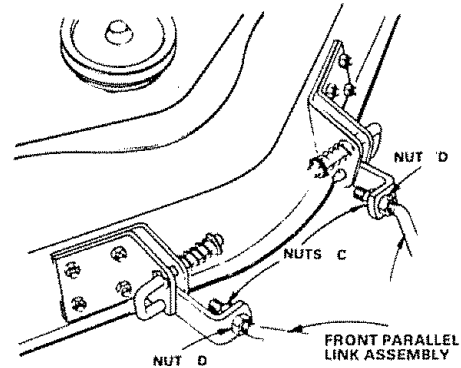

FIGURE 44
NOTE: IF AN ATTACHMENT OTHER THAN THE MOWER DECK IS TO BE MOUNTED ON THE TRACTOR, REMOVE THE FRONT PARALLEL LINK ASSEMBLY (Fig. 44).
- To raise front of mower loosen nuts "D". Screw nuts "C" up onto suspension arms (Fig. 44). NOTE: SCREW NUTS "C" ON BOTH SUSPENSION ARMS THE SAME NUMBER OF TURNS SO MOWER WILL REMAIN LEVEL. Tighten nuts "D" securely.